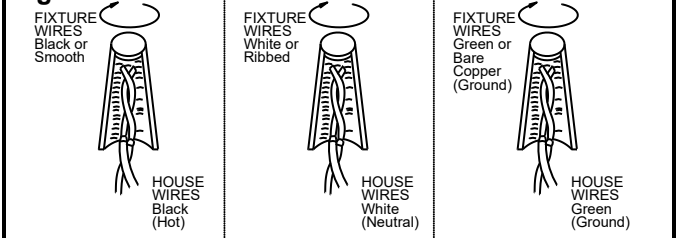

Fig. 3
8. Place backplate (E) over mounting plate (A), and secure with rubber washers (F) and finials (G).
9. Place fixture body (I) over backplate (E), and secure with screws (H) and washers provided.
10. To prevent moisture from entering outlet box and causing a short, use clear silicone sealant to outline the outside of fixture body (I) where it meets wall leaving a space at the bottom to allow moisture a means to escape. (Fig.3)